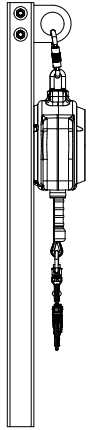
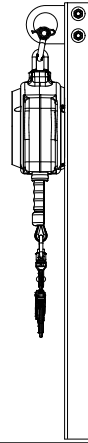

Fig. 5
Fig. 6
6. Any SRL with a maximum arrest force of 1800-lb. or less may be connected to the Vertical Extendable Ladder Davit using either a steel carabiner (part number 3062-36 or equivalent) or a 1/2-in or 5/8-in. bow shackle (part number 6602 or 6066 or equivalent). To connect the SRL using a carabiner, pass the carabiner through the handle (or connection point) of the SRL and lift the SRL upward to the SRL anchor ring. While holding the carabiner gate open, insert the carabiner into the ring opening. Allow the gate to close and lock (see Fig 5). **NOTE:** If a carabiner is used, the gate **MUST** close and lock once positioned into the SRL anchor ring. To connect the SRL using a bow shackle, connect the 1/2 or 5/8-in. bow shackle to the handle or connection point of the SRL. Lift and align the bolt hole loops of the bow shackle with the SRL anchor ring opening and insert bow shackle bolt. Secure in place with the nut and tighten, lock the nut in place with the safety rue pin. (see Fig. 6)